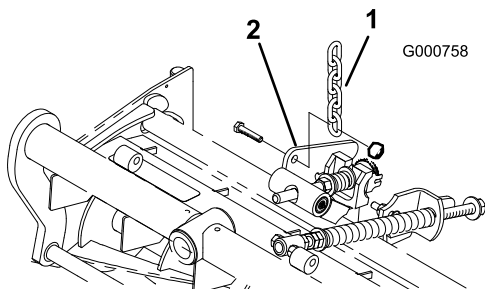

Figure 6
- Remove nut securing turf compensation spring mounting bracket to cutting unit stabilizer ear (Figure 6). Insert tipper chain onto capscrew and secure with nut removed.